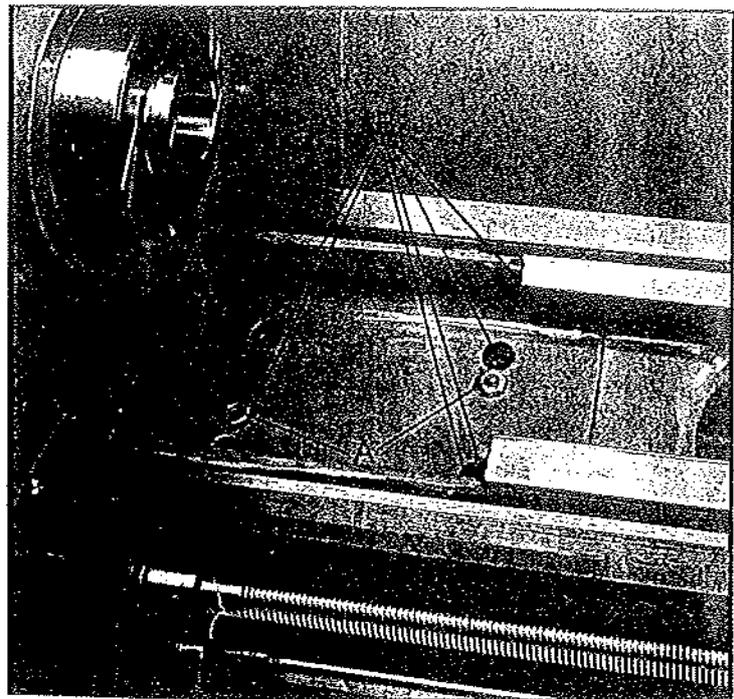

Fig. 25
- To remove gap section, locate two nuts (A, Fig. 25) in the center of the gap section.
- Remove six hex socket cap screws (B, Fig. 25) with a hex key wrench.